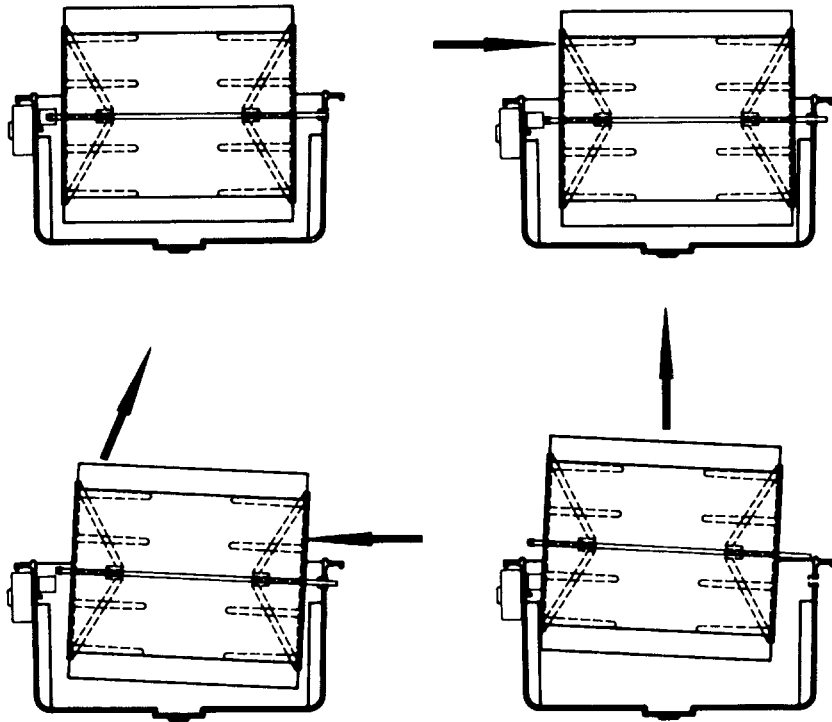

FIGURE 14
1. To install the drum assembly, simply reverse the direction of the arrows in Figure 14 showing drum assembly removal. Start by inserting the drum shaft end opposite the metal tabs into the round bearing in the side of the pan. Some force will be needed to deflect the plastic retaining spring on the outside of the pan. Then, align the metal tabs with the slotted opening in the motor coupling and engage them in the coupling.